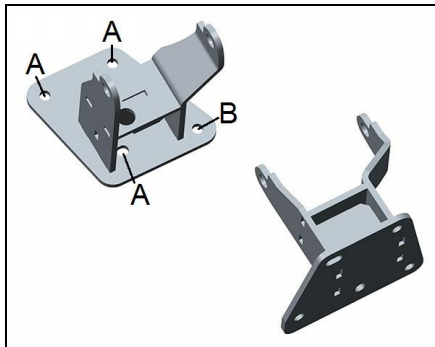
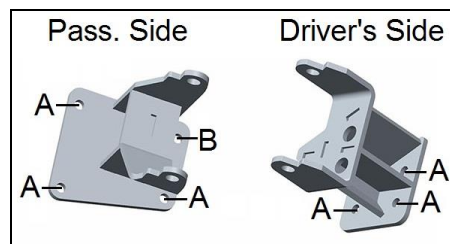

Figure 1 – V6 Driver's Side
Figure 3 – LT1/LT4-V8
6. Using the stock bolts, install the Hooker engine brackets onto the cradle, as shown in **Figures 1 and 2** for V6 applications and **Figure 3** for LT1/LT4-V8 applications. The additional base plate holes (**marked B**) can be scribed, drilled and fitted with fasteners, if desired, for higher HP applications. Leaving these holes undrilled will have no effect on the strength/integrity of a typical swap installation.